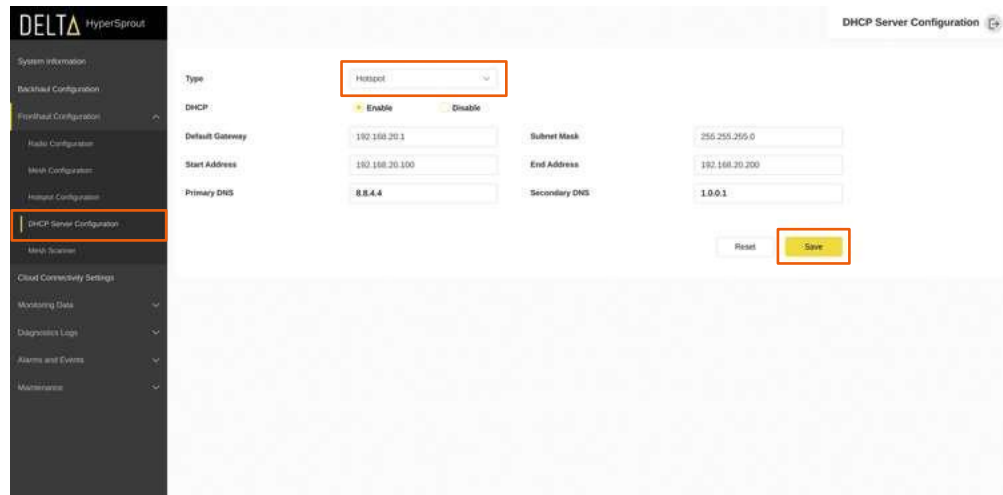
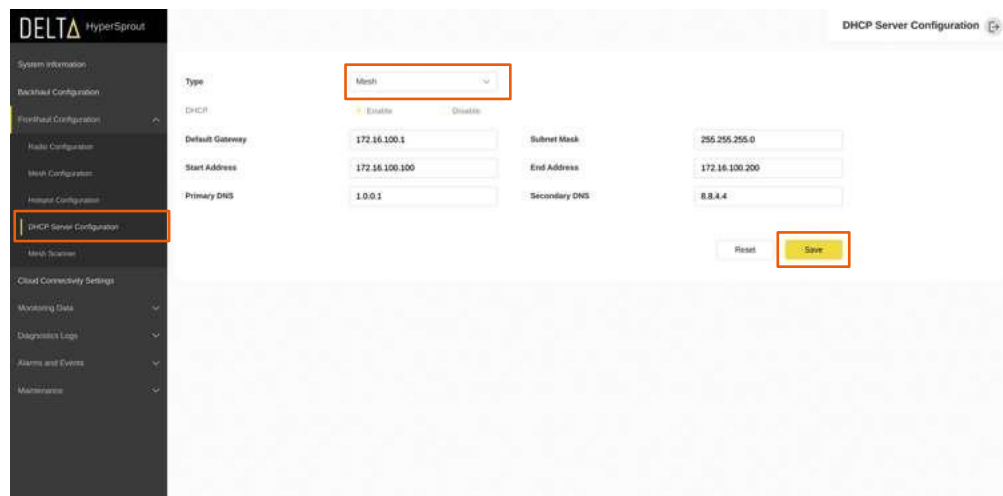

Figure 50: DHCP - Hotspot
Figure 51: DHCP - Mesh
- c. Then click the **Save** button to save the settings. See *Figure 50* and *Figure 51*.